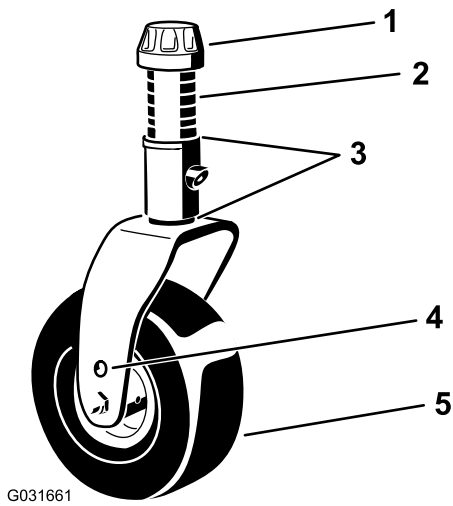

Figure 17
4. Using the supplied caster-cap wrench, loosen the tensioning cap and remove it from the caster-spindle shaft and slide the caster shaft out of the caster arm (Figure 17).
- Install the shims (as originally installed) and the remaining spacers onto the shaft (Figure 17).
- Install the tensioning cap and tighten it with the supplied castor-cap wrench to secure the assembly (Figure 17).